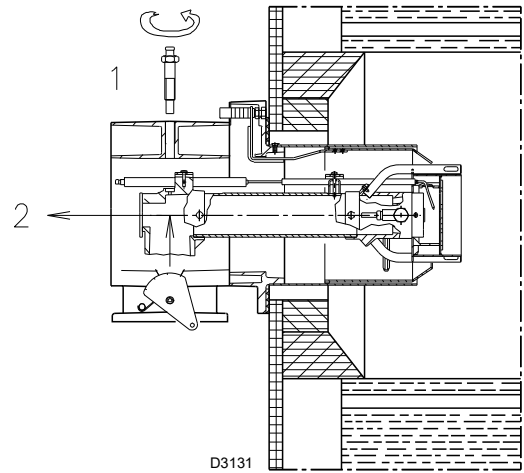

Fig. 19
- Remove the screw 1)(Fig. 19) and the internal part 2);
To facilitate the adjustment, loosen the screw 1)(Fig. 19 on page 22), adjust, then block.